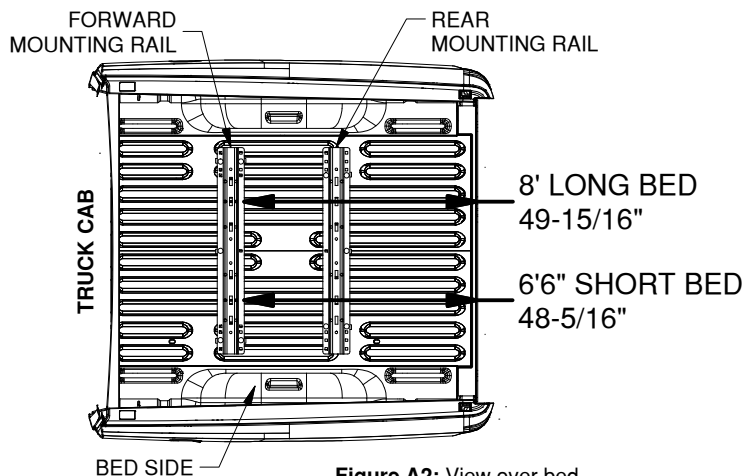

Figure A2: View over bed.
- 1. Layout the forward mounting rail.** Place a mounting rail onto the bed of the truck. Hook a tape measure over the rear edge of the bed (not on any part of the tailgate), measure the location for the mounting rail, as shown in Figure A2. Next, center the mounting rail in the bed by measuring the distance on either side from the edge of the rail to the sides of the bed. The rail will be centered when both measurements on either side of the rail are the same.